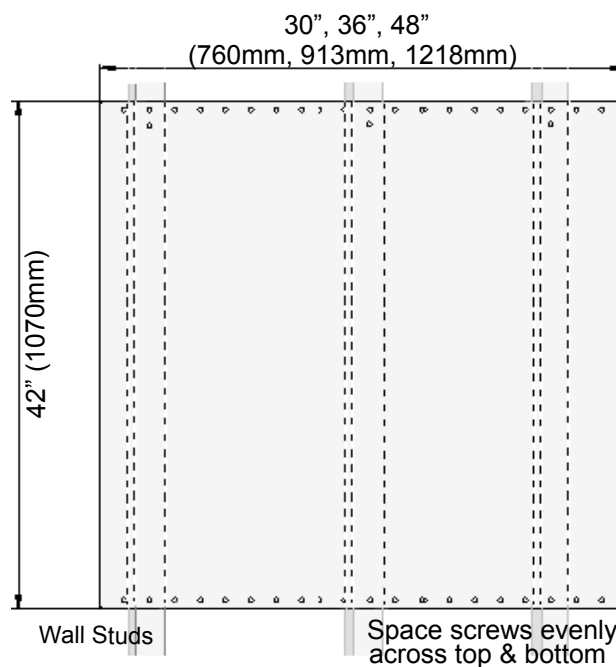

Figure 19: Backsplash Installation
3. Per each wall stud, use (2) of the provided screws to secure both the top and bottom of the backsplash (see *Figure 19*).